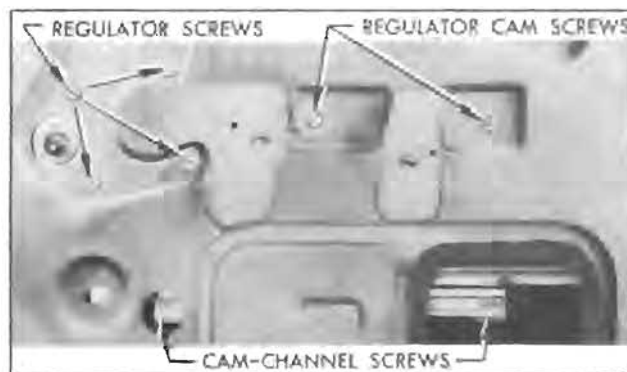

Figure 13-33—Window Regulator and Cam Attaching Screws
3. With glass in lowered position, remove screws attaching the cam to lower sash channel. See figure 13-33.
If glass tilts edgewise, adjust the regulator cam (fig. 13-33) at rear end where the attaching screw hole is slotted vertically. Raise rear end of cam to throw travel of glass forward or lower rear end to throw travel of glass rearward.
window glass (subpar. c above). On all other doors remove screws attaching the cam to lower sash channel (fig. 13-33) then raise glass to closed position and support it there.